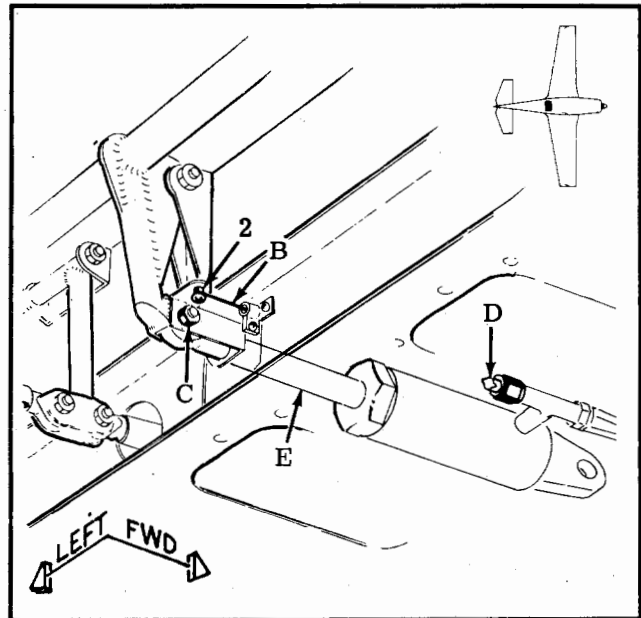

Figure 6-13. Wing Flap Indicator Adjustment
2. Retract flaps to $15^{\circ} \pm 1^{\circ}$, and set flap position indicator cable (B) at attachment screw (2), Figure 6-13, to TAKEOFF position as shown on position indicator in cabin. (3) on 1975 models equipped with flap pre-select switch adjust position control micro switch until it just deactuates.
2. Disconnect hydraulic cylinder piston rod from jack shaft at (C), Figure 6-13.
3. Open bleed valve (D) in hydraulic cylinder fitting.
4. Pump cylinder piston shaft (E) and observe fluid flow from bleeder valve into catch pan.